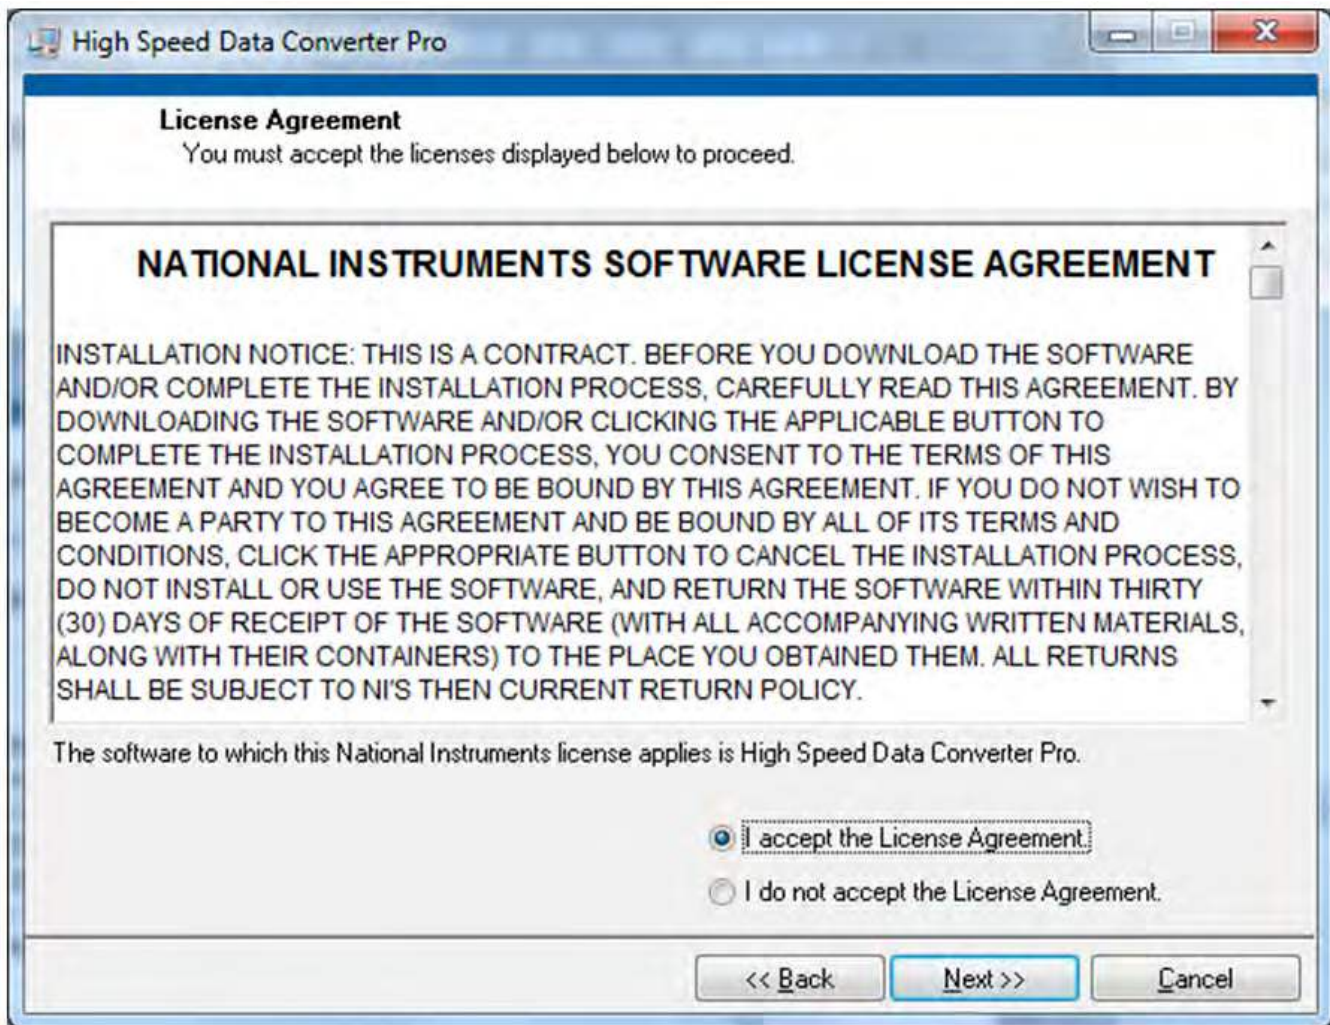

Figure 30. HSDCPro Install (NI License Agreement)
- Read the License Agreement from National Instruments and select *I accept the License Agreement* and press the *Next* button as shown in Figure 30.